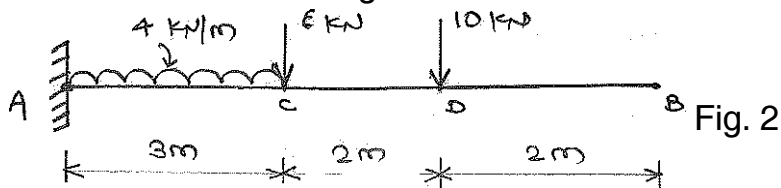

Fig. 2
- Draw B.M. and S.F. diagrams for the beam shown in Fig. 2.